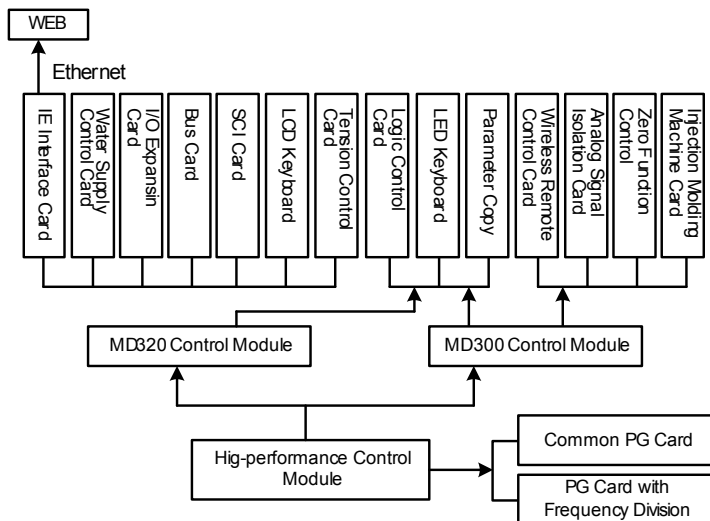

Fig. 2 MD Series Inverter Modular Structure Diagram
- 2) It creates the physical standard for dividing the customer requirements according to such main modules as motor drive module, general functional module and specialized functional module as well as various sub-modules. Refer to Figure 2 for the schematic diagram for the modular structure of MD series inverter;
3) The top-layer module of MD series inverter is a specialized industry module and also a platform provided to satisfy the specialized industry demands, enabling the customers to either apply the existing solutions or perform secondary development according to their own needs. Refer to Figure 2 “MD Series Inverter Modular Structure Diagram” for the top-layer sub-modules.